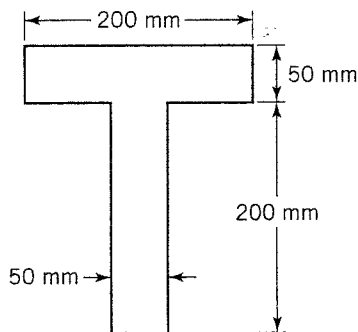

FIGURE P4.17
4.17. The structural steel in a T-beam has a yield strength  $Y = 260 \text{ MPa}$  (Figure P4.17). The critical section of the beam is subjected to a moment that causes compression in the top fibers of the beam. Determine the fully plastic moment  $M_P$ .